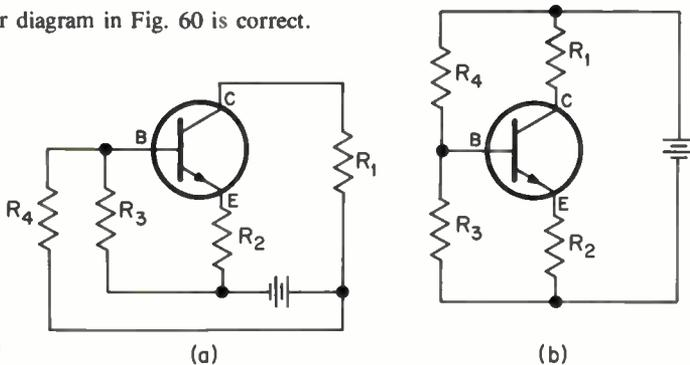

Fig. 60
1. Either diagram in Fig. 60 is correct.